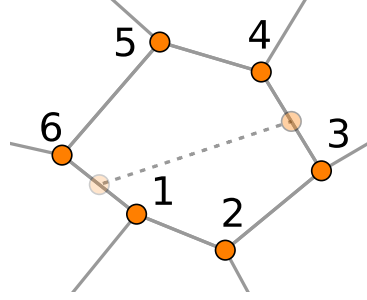

Fig. 4: An example cell, with all vertices labeled and a cell division shown. The division here would be with `split1=3` and `split2=6`.
- Next you will need to find the indices of all four relevant vertices, e.g. vertices 3, 4, 6, and 1 for the division shown in Fig. 4.
- Update the `cells` network to include the new vertices and new cells. Note that two new cells have been created, 1 has been erased (or replaced), and 2 additional neighboring cells (at the lower left and upper right of Fig. 4) have had a vertex added.